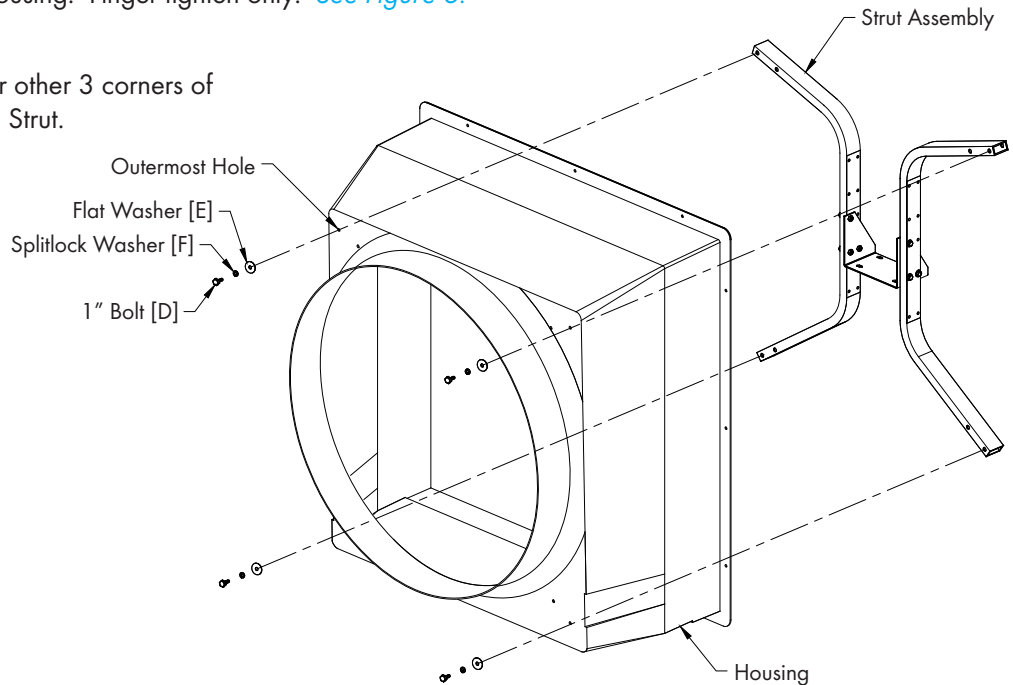

Figure 6
Position assembled H-Strut Assembly into fan housing with the Exhaust Side (threaded inserts) against the housing. *See Figure 6.*
Align outermost hole in the top Left Strut to outermost hole in the corner of fan housing and fasten using (1) 1" Bolt [D], Splitlock Washer [F] and Flat Washer [E] from the outside of fan. Be sure Flat Washer [E] is against Fan Housing. Finger tighten only. *See Figure 6.*